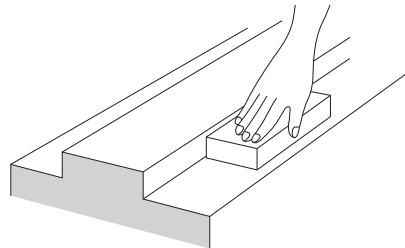

Fig.21
- (1) Remove burr or knots from the LM rail mounting surface of the base using an oil-stone. (Fig.21)